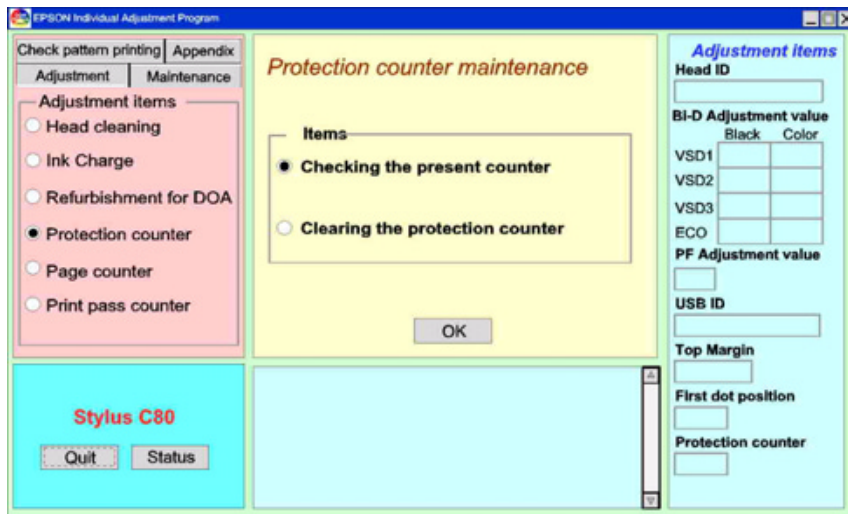

Figure 5-50. Protection Counter Operation Initial Screen
8. On the Figure 5-50 screen, select "Checking the present protection counter", and press "O.K." button on the program screen.